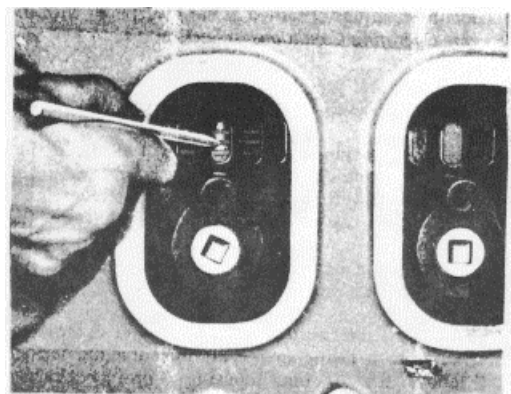

Fig. 3 Inspecting Piston Rings
- (1) Piston rings may be stuck or broken. To determine the condition of the rings, remove the air box cover and inspect them by pressing on the rings with a blunt tool (Fig. 3). A broken or stuck ring will not have a "spring-like" action.
- (2) Compression pressure may be leaking past the cylinder head gasket, the valve seats, the injector tube or a hole in the piston.